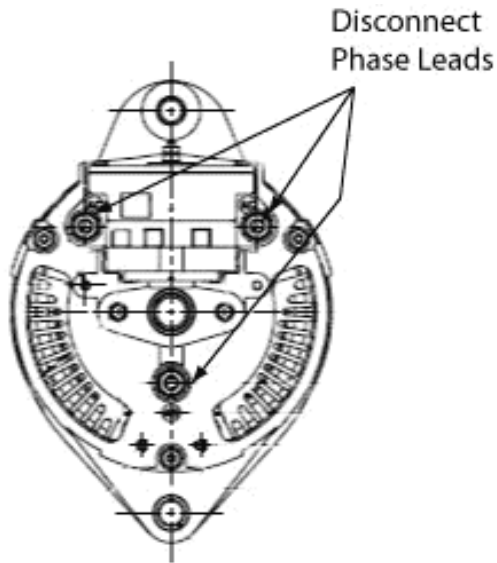

Figure 3
D. Disconnect the three (3) phase leads marked AC on the back of the alternator (see Figure 3) and tape the end of each lead individually with electrical tape and tie back out of the way.